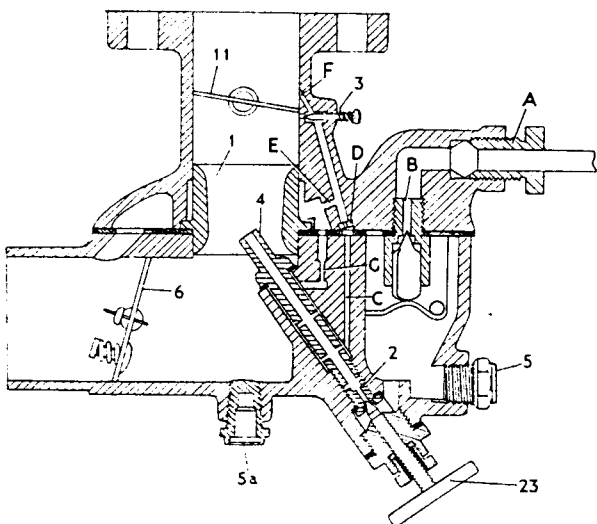

FIG. 23
The detachable venturi (I) Fig. 23 is of a suitable shape and size to provide sufficient flow of air to the carburettor for all throttle settings.